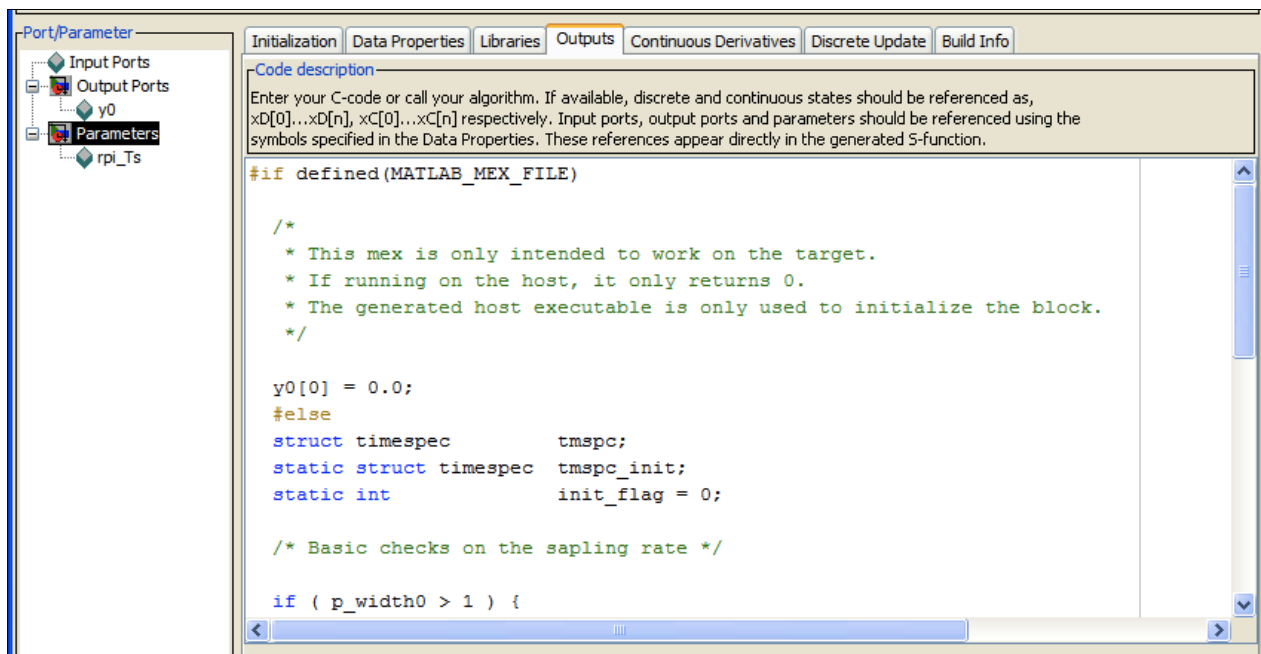

Figure 15 - Coding your S-function
8. In the “Outputs” pane, enter the custom code of the S-function. Note that Matlab needs a local executable of this code to work (especially to guess the block sampling time). This executable is created with the “mex” command in the “setup.m” script. This fake executable will only output 0 as shown in the code of Figure 15. The macro “MATLAB_MEX_FILE” is false in the case of a mex file and so only the code below “#else” will be compiled on the RPI platform.